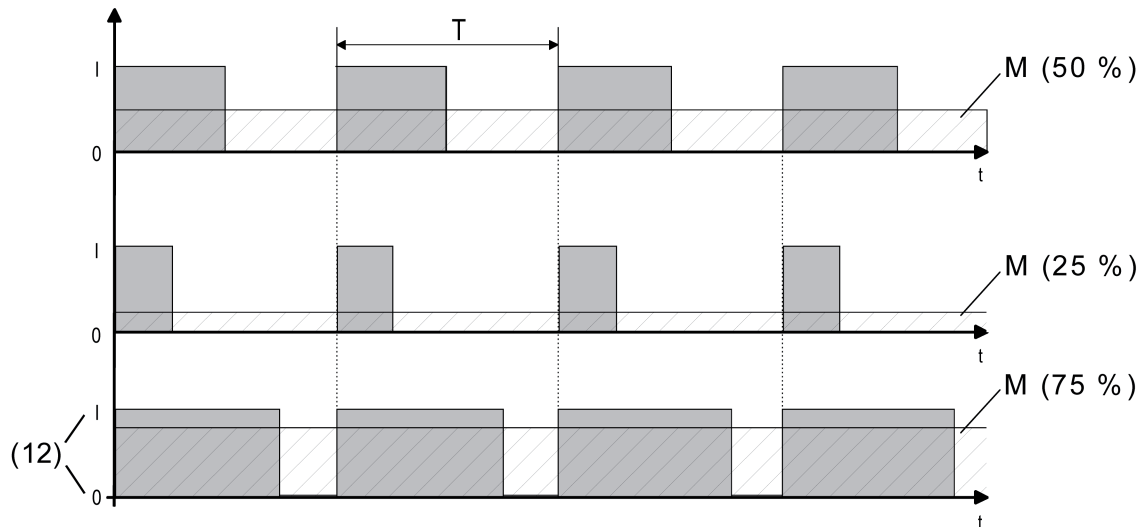

Figure 42: Pulse width modulation of a valve output signal
As soon as that device should set a constant command value or a valve setpoint position value configured in the ETS, it modulates the output signal using the switch-on pulse width. Taking the cycle time (T) settable in the device into account, the average output signal (M) resulting from this modulation is a measure of the centred valve position of the control valve and thus a reference for the set room temperature (Figure 42).